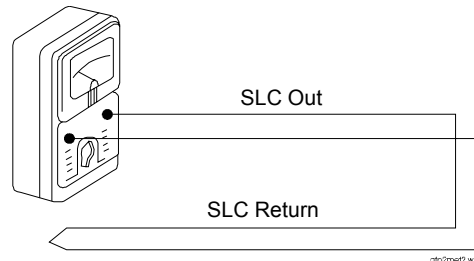

Figure 25 Meter Leads for Measuring a Four-wire SLC
The total DC resistance of the SLC pair cannot exceed 40 ohms. Measure DC resistance as shown in Figure 25. For detailed UL wiring requirements, refer to Appendix F.
3. Measure the resistance across the SLC Out leads (Figure 25).